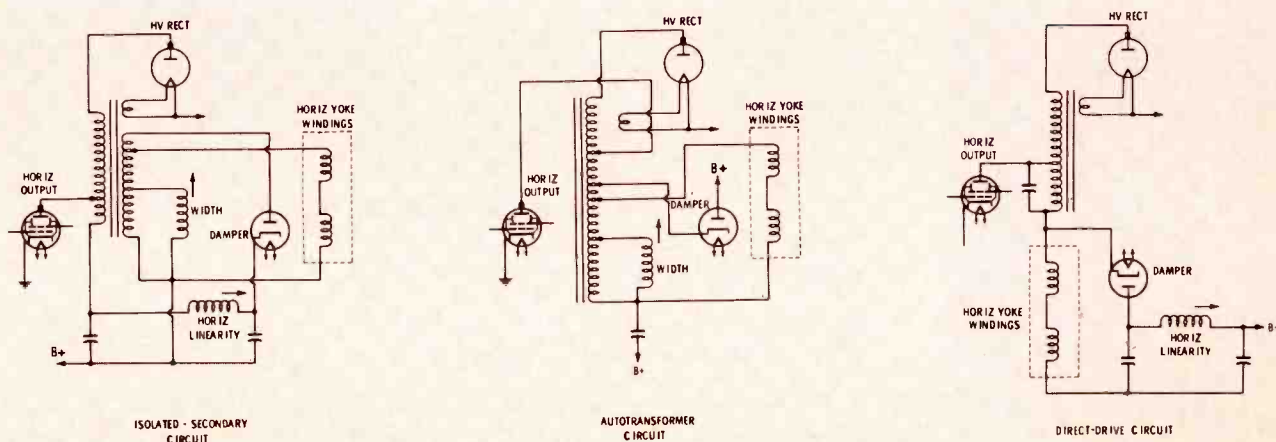

Fig. 5 Results of ringing test of three basic types of horizontal-output circuits.
**Fig. 4** Test setup for ringing test of a horizontal-output circuit. Set pulse generator and scope sweep rate to about 2600 Hz, to produce about 6 to 9 distinct sine waves. Normal and abnormal scope patterns are shown in Fig. 5. To individually test fly-back, connect pulse generator and scope across primary of transformer (ground bottom terminal of autotransformers).
generator to the transformer, as shown in Fig. 4, and observe the waveform. If the transformer is good, ringing will be observed on the waveform; if it is not good, no ringing or only a couple of cycles will be observed, as shown in Fig. 5. Like a lot of tests, this one is not always accurate, but this is mostly a matter of observer error. To improve your technique, try this test a few times on sets which are known to be working, and you will know what to expect when you are testing for trouble.
When making a ringing test, don't forget that a short across the transformer also will damp out the ringing, as shown in photos B, C and D of Fig. 5. Check the external circuit before replacing the transformer, if damped ringing is evident.